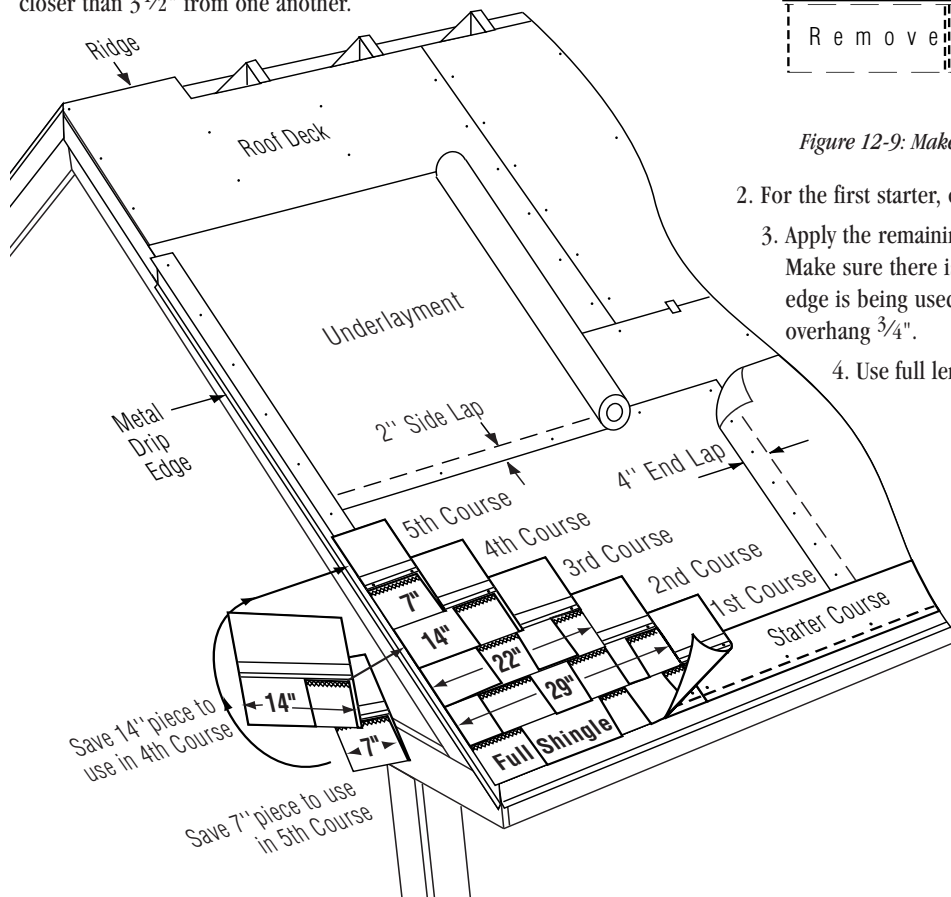

Figure 12-8: Applying the first 5 courses on a standard slope.
1ST COURSE: Apply a full shingle at the lower left corner of the roof. Make the lower edge and left edge lie flush with the edges of the starter course (Figure 12-8).
1. Cut 7" off the left end of the first shingle and save this piece for later use. Apply the 29" long piece over and above the first-course shingle. Leave the bottom 5" tab portion of the first-course shingle exposed (Figure 12-8).